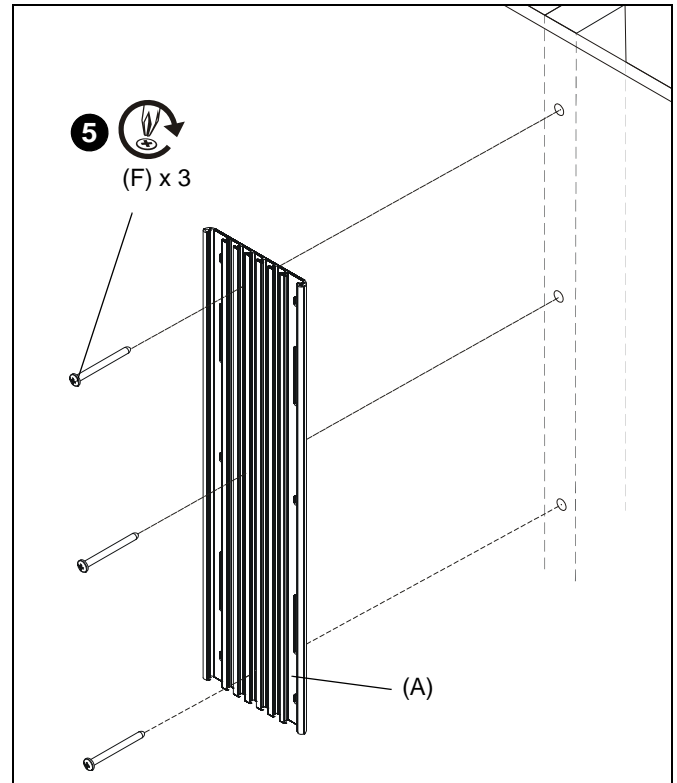

Figure 2
5. Install three #12 x 2 1/2" round pan wood screws (F) through small center bracket holes and into drilled holes. (See Figure 2)